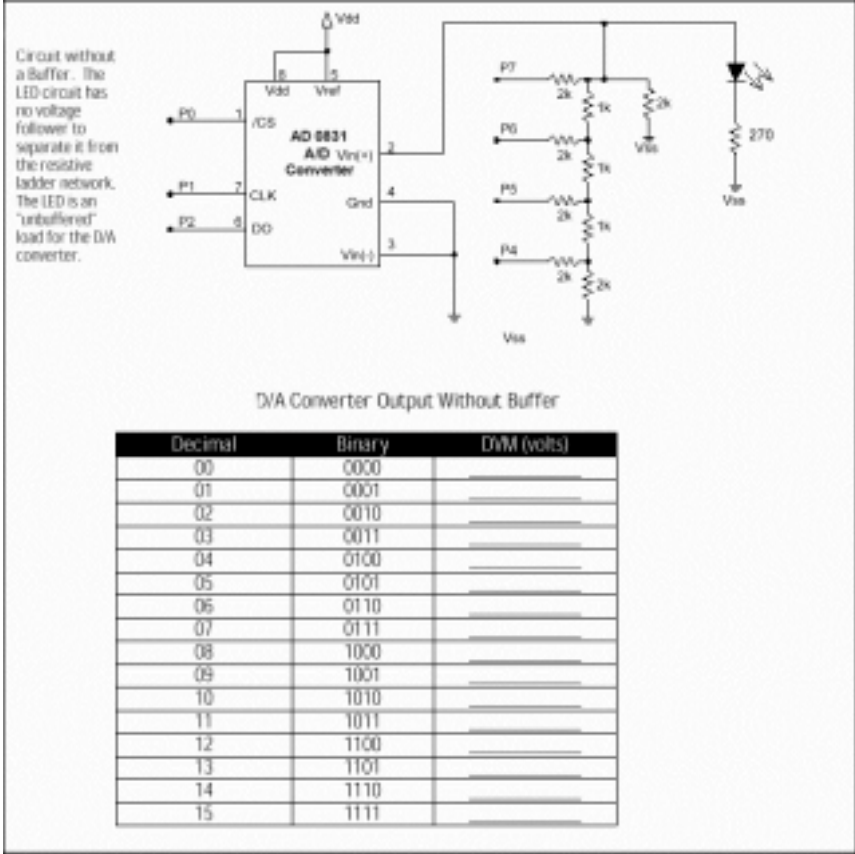
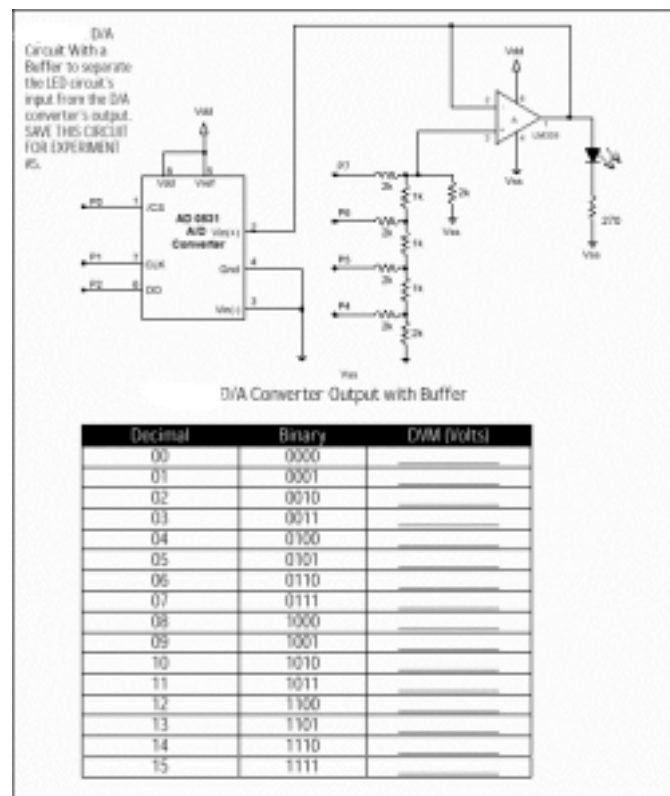

Figure 4: R-2R ladder without Voltage Follower
Figure 5: R-2R ladder with Voltage Follower
1. Create an R-2R ladder network DAC (as discussed in class) and interface its output to a LED and the ADC as shown in the Figure 4 below.
- Note: Figure 4 depicts the implementation of a 4-bit R-2R ladder network where by outputting a series of LOWs (0) and HIGHs (1) on the output pins P4-P7 one can create the appropriate output voltage levels (Resolution = 4 bits). The LED serves as a load on the DAC circuitry while the ADC (set up in the previous stage) serves to measure the output voltage levels. In your system, you will need to create the R-2R ladder by using resistors that are available in your Stamp Works kit. Set up the system so that pressing Button D3 increments the output of the DAC while Button D4 decrements the output of the DAC. Create a table and note down the values of the output voltage from this DAC for the range of 8-bit digital output values (from \$00 to \$FF in increments of 16).
- Augment the setup in Step 1 by adding the voltage follower circuit as shown in Figure 4 using one of the channels of the LM358 shown in Figure 5. Now create a similar calibration table to correlate the output digital levels to the actual values measured by the ADC. **(DEMO 3)**